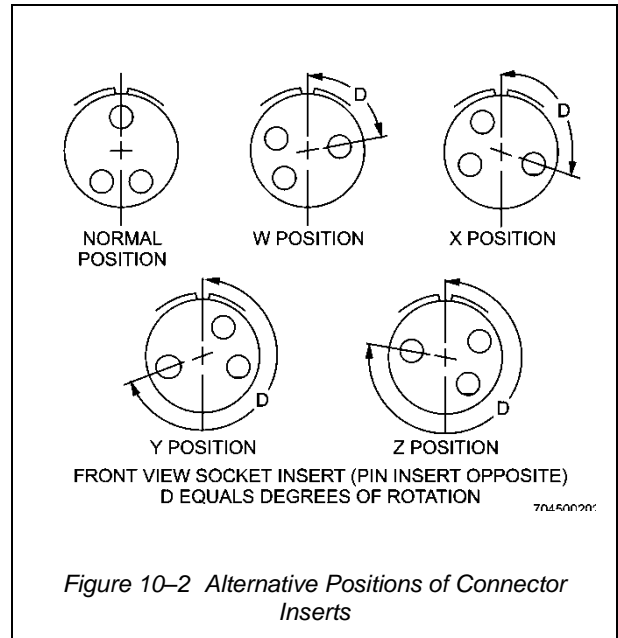

Figure 10-2 Alternative Positions of Connector Inserts
- g. Last letter indicates alternative insert position. Insert position letters W, X, Y, or Z indicate that the connector insert has been rotated with respect to the shell a specified number of degrees from the normal position. Alternative positions are specified to prevent mismatching when connectors of identical size and contact arrangement are installed adjacent to each other. These alternative positions are shown on military standard drawings. If no letter appears, the insert is in the normal position. On connectors with multiple keyways, the degree of rotation is measured from the widest keyway. See Figure 10-2 for typical alternative position arrangements.